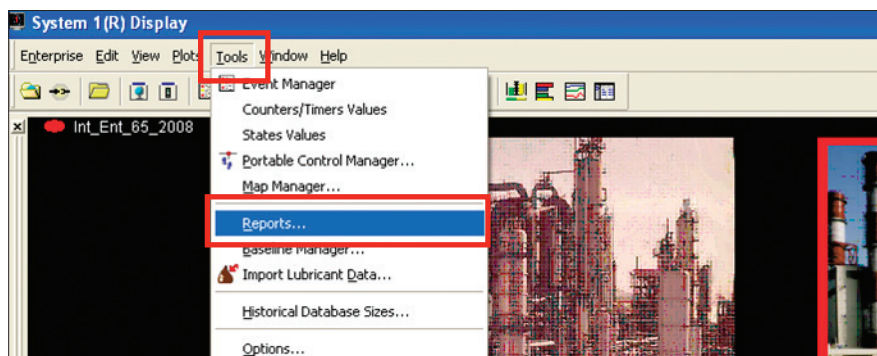

FIGURE 5: Opening the Reports dialog for your enterprise
**5** Finally, Journal Entries may also be shown in Report Form by selecting **Reports** in the Tools menu (Figure 5).